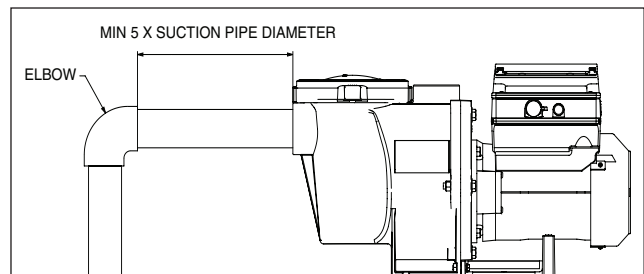

Figure 2: Recommended Piping
4. For most installations Pentair recommends installing a valve on both the pump suction and return lines so that the pump can be isolated during routine maintenance. However, it is recommended that a valve, elbow or tee installed in the suction line should be no closer to the front of the pump than five (5) times the suction line pipe diameter. See **Figure 2**.